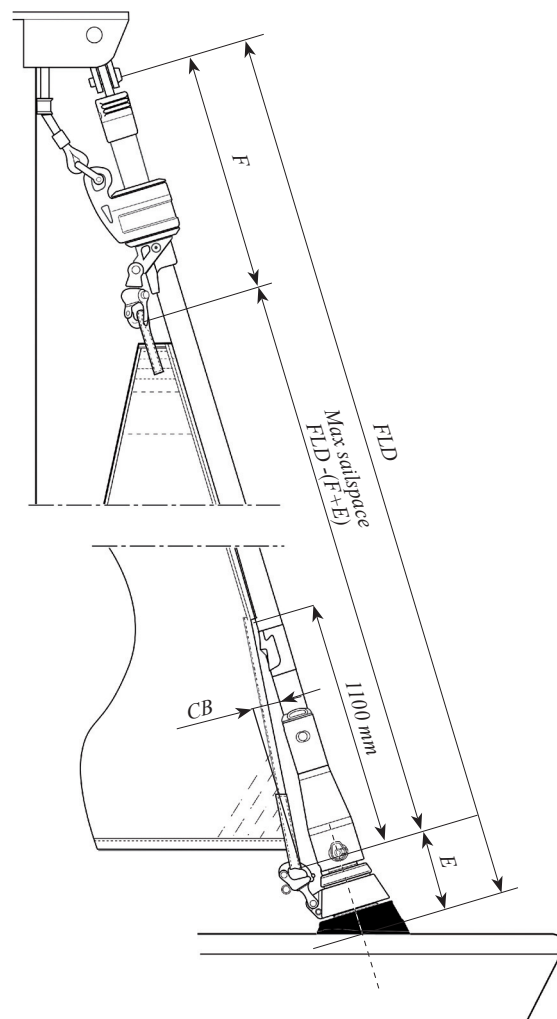

Fig: 7.1.b
- ☐ To fit the Furlex system, an existing sail may need a number of modifications. The maximum luff length is calculated as shown in Table 7.1.1 and Fig: 7.1.b. $FLD - (F+E)$ (existing forestay length FLD as per Table 3.6.1 – less head and tack deduction).